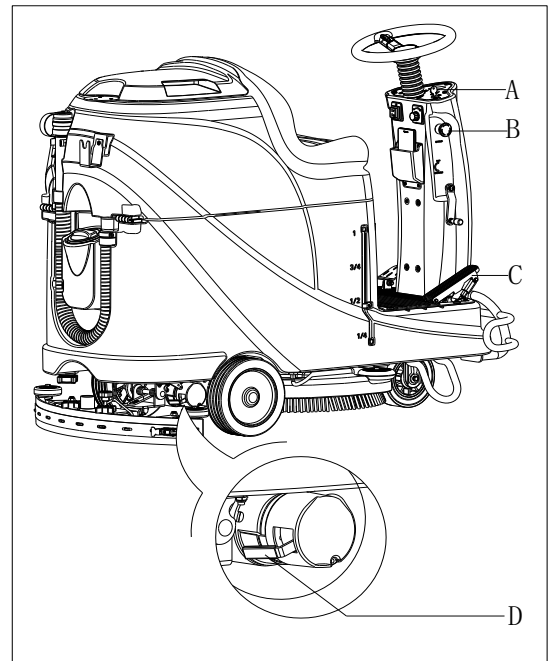

Figure 9
1. Turn the key switch (A, Figure 9) to "ON"
2. Depress the accelerate pedal (C) slightly then loosen it to check if the machine can be steered forward and stopped.
3. To ensure the security, confirm if the machine can be stopped immediately by pressing the emergency button (B). Rotate the emergency button to reset it.
- Brake unstuck -the brake handle(D, Figure 9) locates above